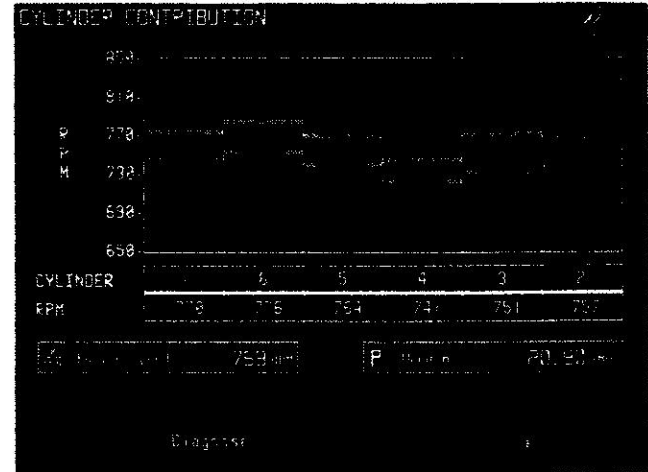

Figure 2-25
4. Press [F3] to display the *Cylinder Contribution* screen, the "live" screen for this test (see Figure 2-25).